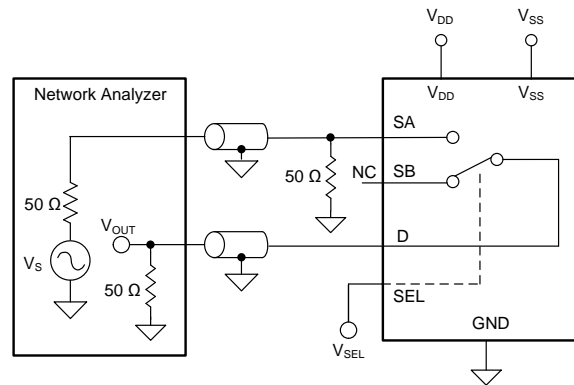

Figure 23. Off Isolation Measurement Setup
Off isolation is defined as the voltage at the drain pin (D) of the TMUX6136 when a  $1-V_{RMS}$  signal is applied to the source pin (Sx) of an off-channel. Figure 23 shows the setup used to measure off isolation. Use Equation 2 to compute off isolation.